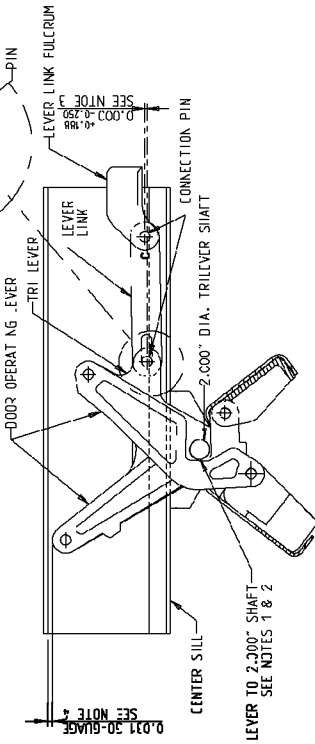

FIGURE 2
- The Door Operating Lever at each end must contact the 2.000" dia. Trilever shaft. SEE: FIGURE 2.
- The Door Operating Levers at the three center pockets must have one of the two levers CONTACT the 2.000" dia. Trilever shaft with the other lever being less than 0.250" NO-GO gauge of SEE: FIGURE 2.
- The Door mechanism lever links are to be within the range of 0.188" positive to 0.25" negative max. slope. Positive slope is defined as the trilever connection being above the lever link fulcrum connection. Negative slope is defined as the trilever connection being below the lever link fulcrum connection. The dimension used for inspection purposes shall be taken from center line to center line of the connection pins. SEE: FIGURE 2.
- A minimum 0.031" GO-gauge clearance gap must be maintained between the top of the Trilever and the inside surface of the center sill. SEE: FIGURE 2.
- The pin in the Trilever to Link must be within 0.000" to 0.500" away from the closing end of the link slot. SEE: FIGURE 2.